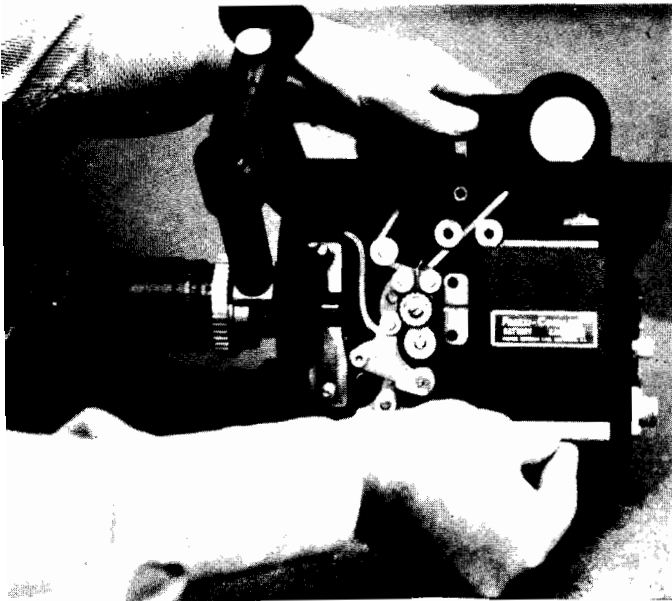

FIGURE 16
- b) Tilt the battery with the case openings under the gold plunger assemblies. See Figure 16.